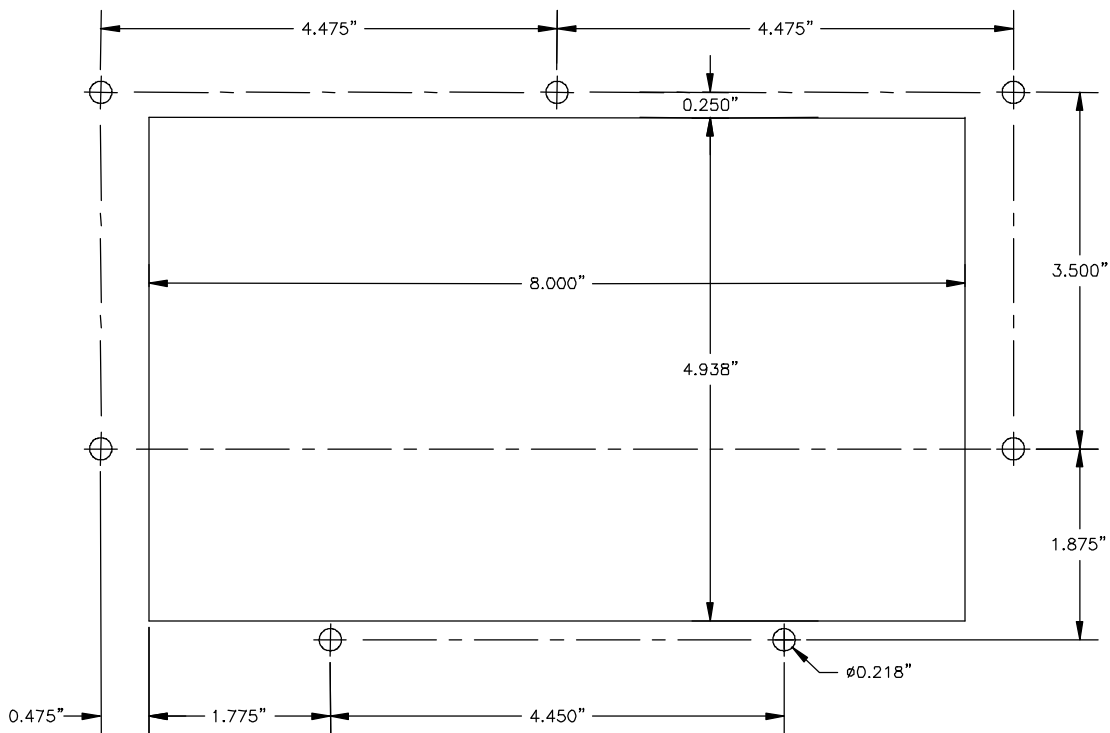

Figure 1 – D4591 Recommended Panel Door Cut-out
- 1) Refer to the “Recommended Cut-Out” in figure 1. Create a cut-out in the door of the existing control cabinet and mount the D4591 display and connect the ribbon cable from the M4500 to the display.